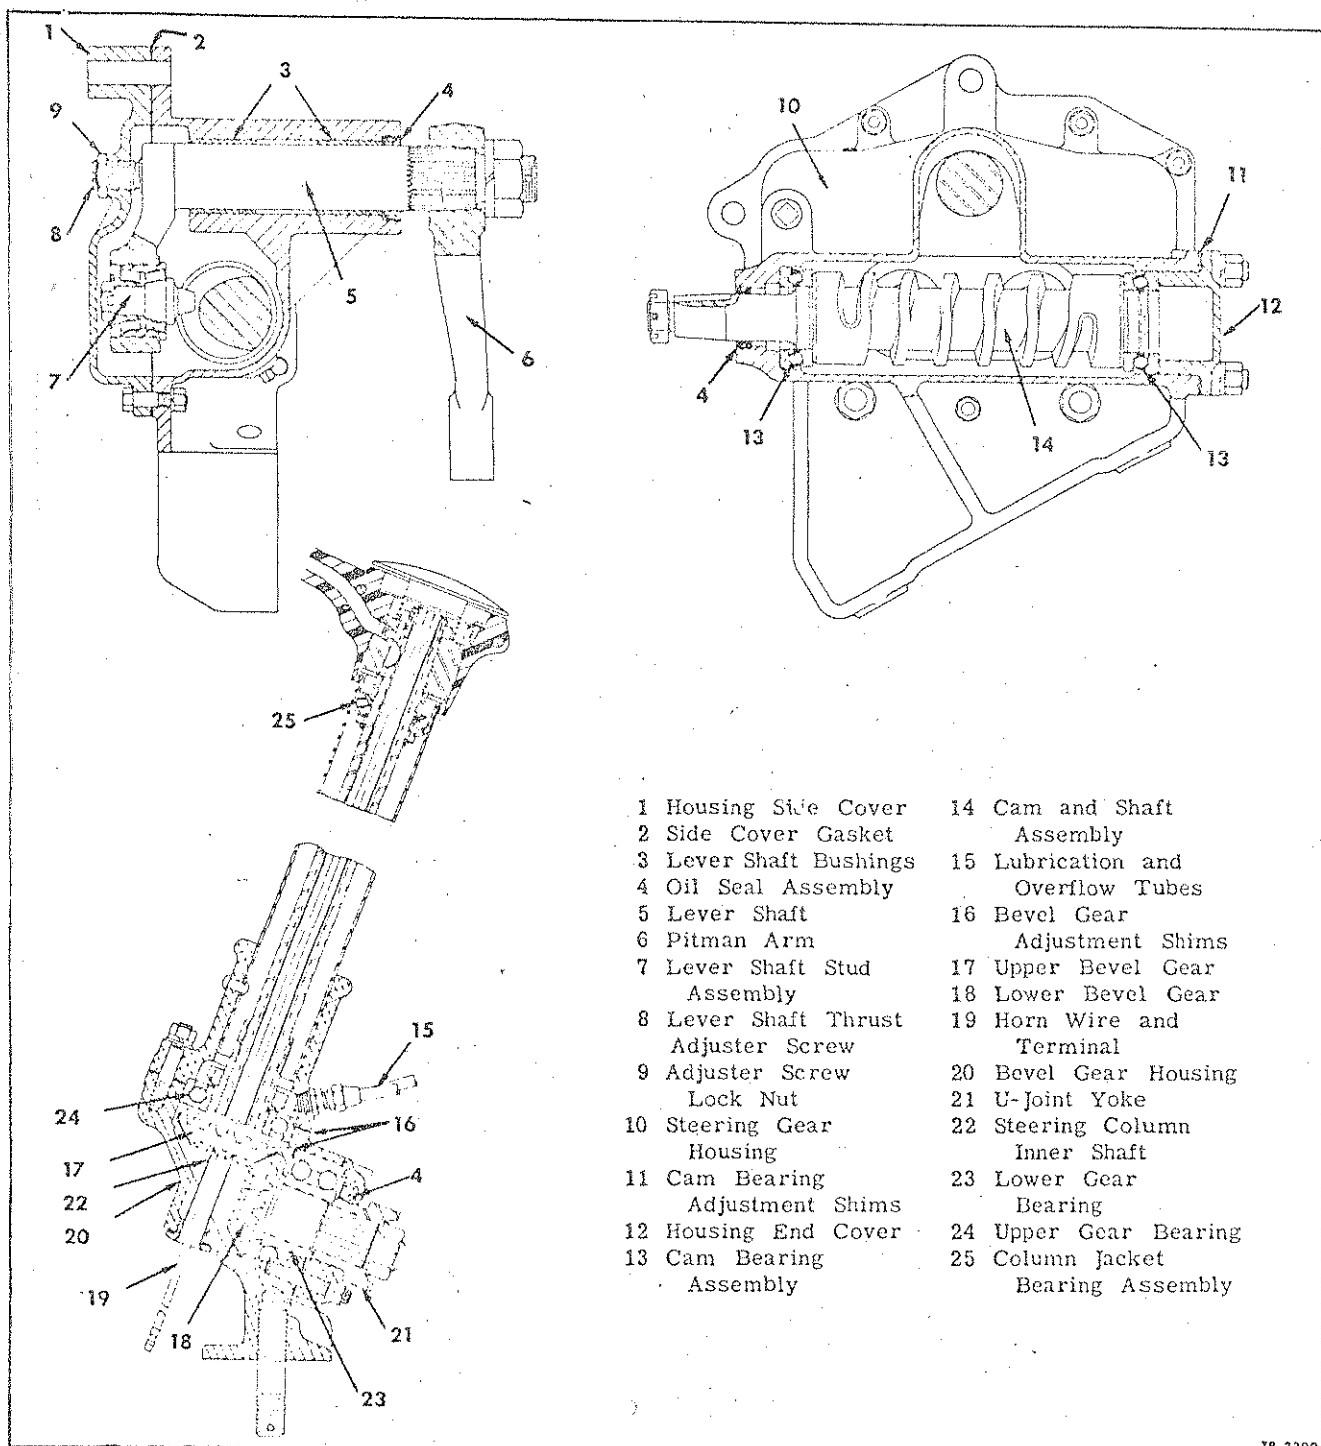
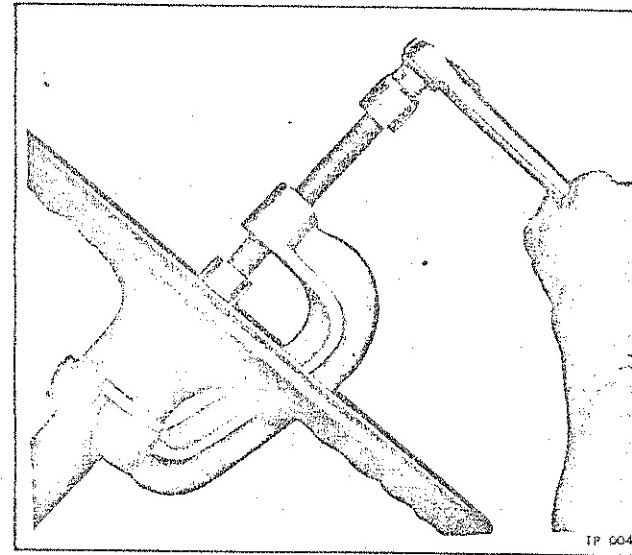

Figure 2—Steering Gear Construction
Figure 4—Removing Steering Wheel—
Steering gear, figure 2, is cam and roller twin lever type. The only contact between actuating and actuated members of gear is rolling-line-contact between lever studs and cam thread. Clearance between studs and cam can be adjusted by means of adjusting screw and lock nut, accessible from under vehicle, as described under "Steering Gear Adjustments" in this section.
CAM BEARING ADJUSTMENT (Fig. 2)
Before making this adjustment, loosen the lever shaft thrust adjusting screw (8, fig. 2) to free the studs in the cam groove, then proceed as follows:
LEVER SHAFT THRUST ADJUSTMENT (Fig. 2)
ADJUSTING BEVEL GEAR BACKLASH (Fig. 2)
- Remove steering wheel retaining nut, then, using steering wheel puller (Tool No. J-452-G) as illustrated in figure 4, pull wheel off upper steering shaft and remove key from keyway in upper shaft.
- Disconnect universal joint, at bevel gear housing, by removing U-bolts (18) which attach journal (19) of joint to splined yoke (16).
- Disconnect lubrication and overflow tubes (15, fig. 2) at bevel gear housing.